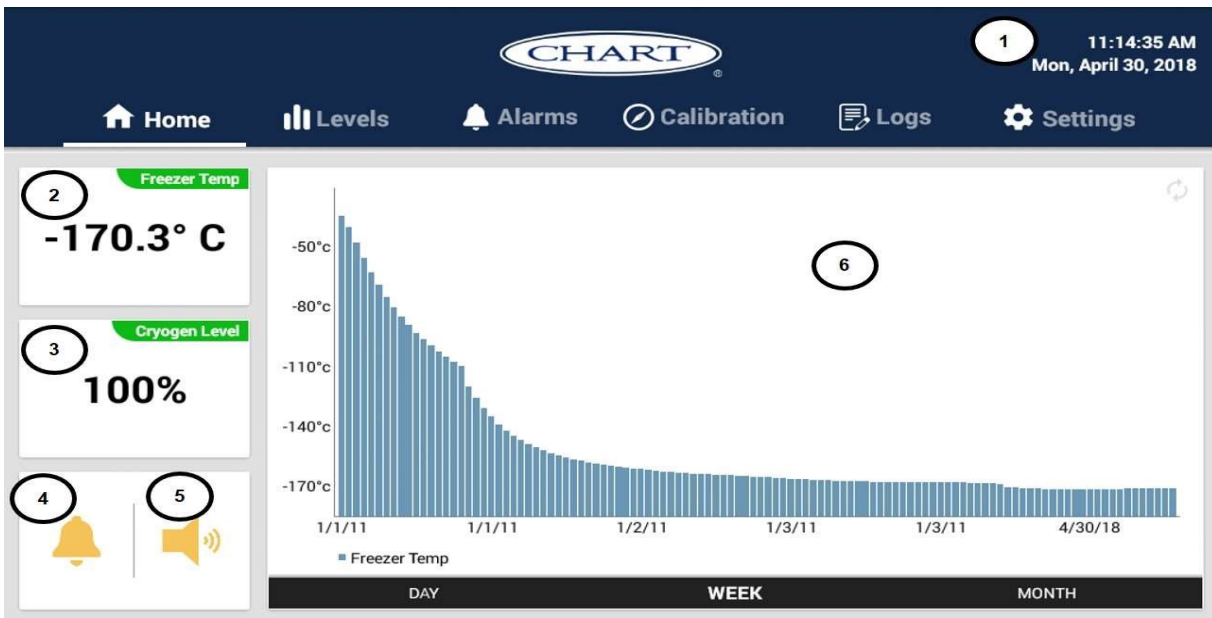

Figure 21: Graphical User Interface Main Screen
The main screen displays several key parameters including Freezer temperature, cryogen level, and temperature distribution (see Figure 21). Some parameters can be
6. **Temperature Timeline** – The freezer temperature data points displayed on the graph reflect the measured freezer temperature at the top of every hour of operation. At the top of every hour a new data point is added to the graph which matches the displayed freezer temperature on the left. Graphing one measured freezer temperature per hour is to improve performance and increase the overall stability of the firmware. This display has the capability to display the data for the selected day, week or month. In Figure 21, if the user selects day option (indicate below the time line), the bar graph shows the average Freezer temperature recorded for the respective hour.